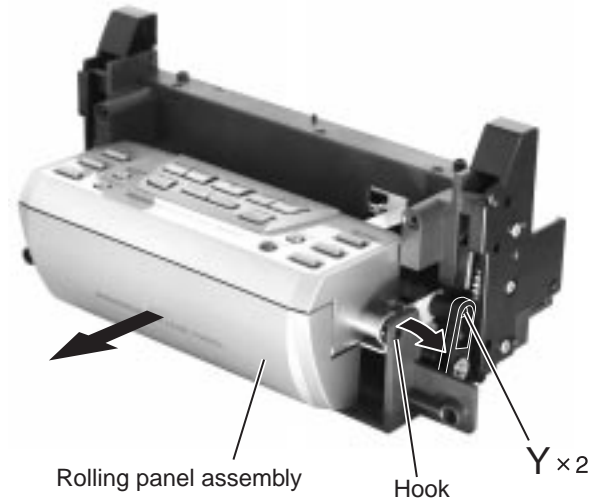

Fig.27
■ Removing the rolling Panel Assembly (See Fig.27)